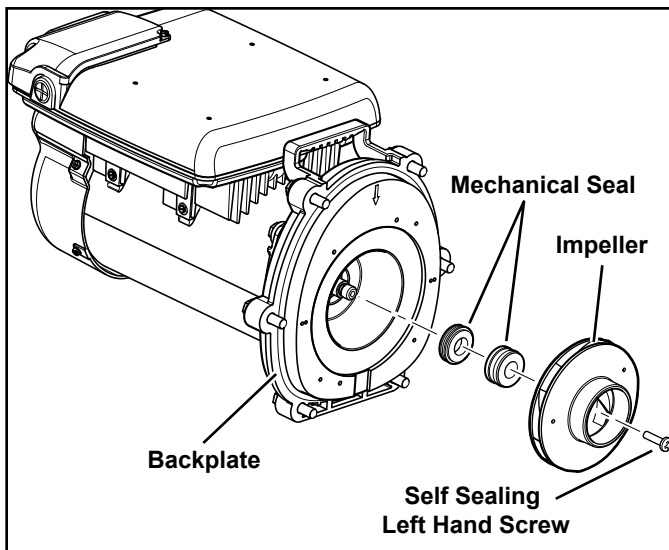

Figure 15. Remove the Impeller
7. Hold the exposed motor shaft with a 1/4" hex allen wrench and remove the impeller center screw using a No. 2 Phillips screwdriver. Turn the left-hand-threaded screw clockwise to loosen it. See Figure 15.
2. Remove the carbon face seal half from the motor shaft (See Figure 15). This is a spring-loaded seal. Grasp the portion of the seal closest to the impeller body and pull the seal off, using a twisting motion.